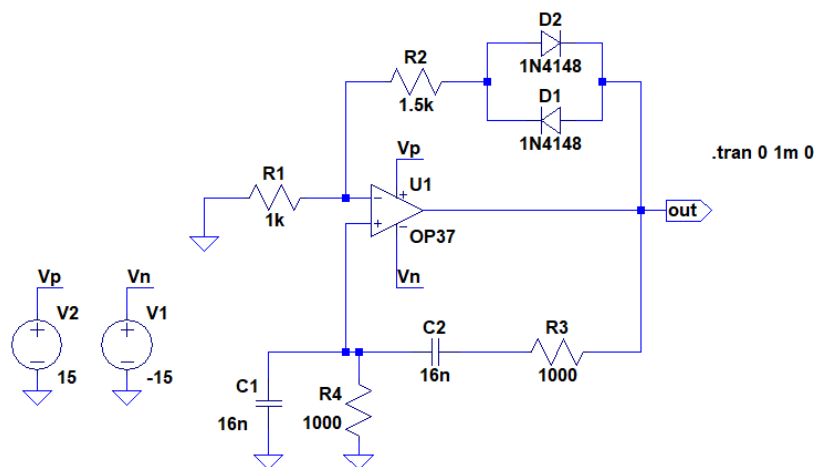

Fig. 11. Wien bridge oscillator (sine wave generator) with nonlinear elements (AGC).
7. Modify the generator circuit as shown in Figure 11.
- Create a new element (subscheme) - Wien's bridge (similar to the transformer) and use it in the previous generator circuit (Fig.11)
- Simulate the operation of the Wien bridge oscillator (sine wave generator) with AGC (Fig. 11) in Micro-Cup 12 program (make perform the necessary AC and Transient simulation).